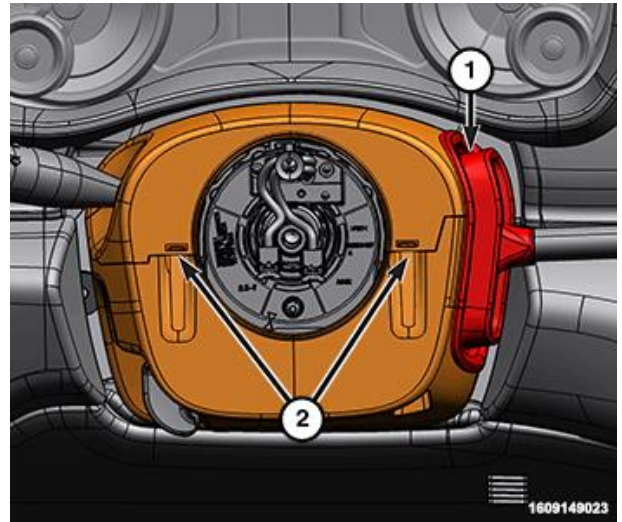

Figure 24 – Steering Column Shroud
18. If equipped, release the shifter boot (1) from the steering column shroud (Figure 24).
19. Disengage the upper steering column shroud tabs (2) from the lower steering column shroud (Figure 24).
7. Install the upper steering column shroud to the lower steering column shroud (Figure 24).